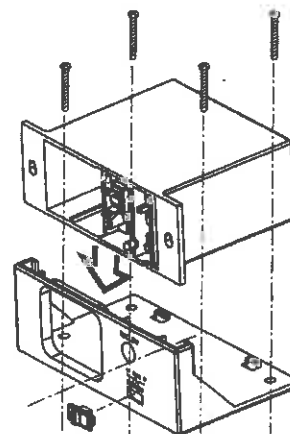

Figure 3
- Slide the Remote Receiver into the fireplace mounting plate. See *Figure 3*.